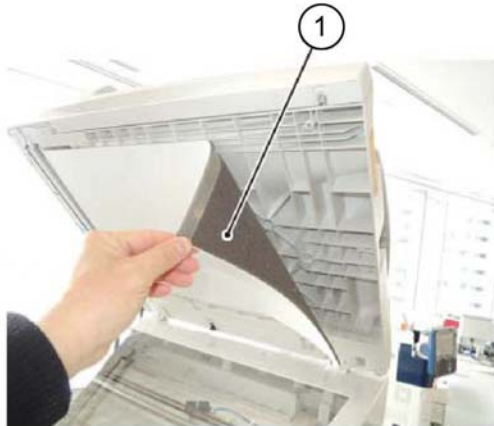

Figure 1 Document cushion removal
1. Peel off the DADF document cushion, Figure 1.